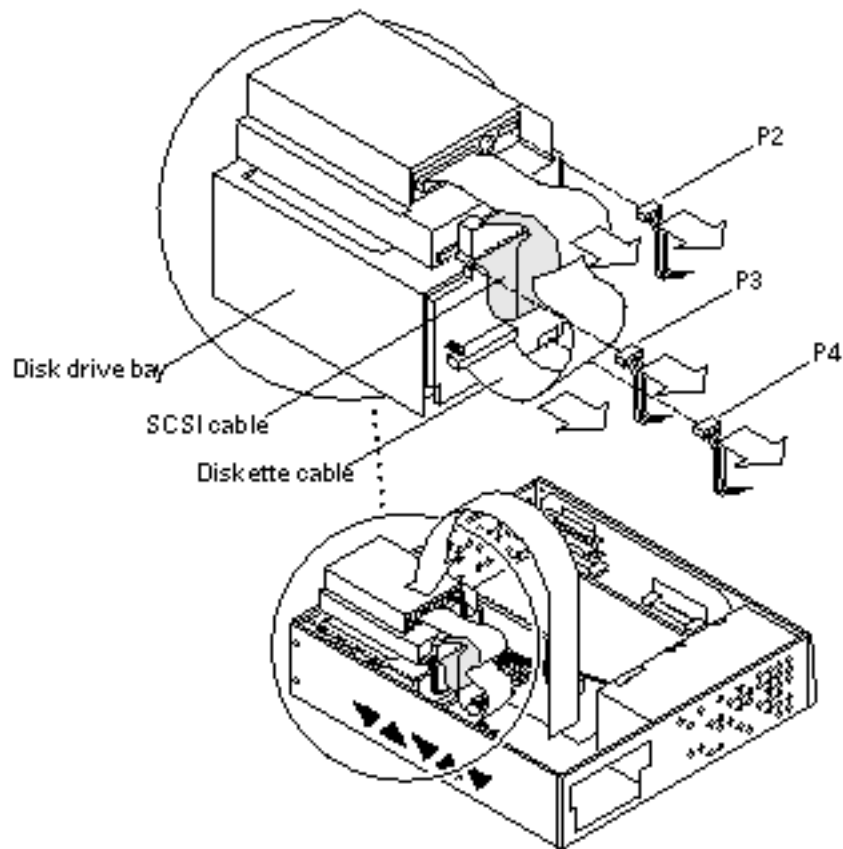

Figure 8-18 Removing the Peripheral Power Cable
5. Detach the peripheral power cable from the peripherals and the fan. See Table 8-1 and Figure 8-18.